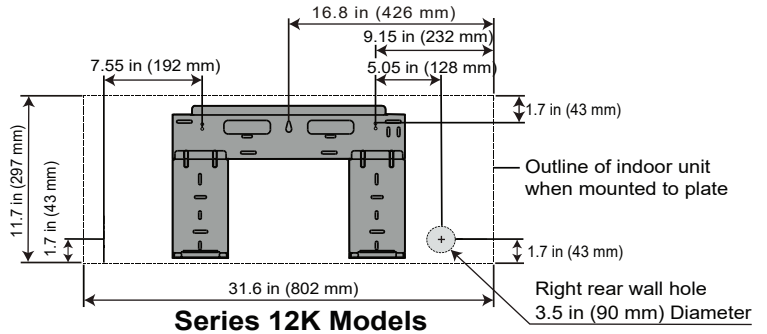

**Fig. 5.3**
2. Using a core drill, with a 3.54 in (90 mm) diameter, drill a hole in the wall at a slight downward angle, so that the indoor end of the hole is higher than the outdoor end of the hole, by approximately 0.2 in to 0.275 in (5 mm to 7 mm). This will ensure proper water drainage from the indoor unit (**See Fig. 5.3**).